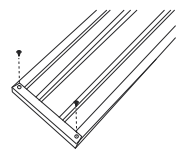

Figure 2
2. For the seats, lay two aluminum planks upside down on a flat surface. Slide the metal end caps onto each end of the planks. The pre-drilled holes of the end cap should be facing up. Use power drill and two self-tapping screws to secure each end cap onto each end of the plank. (See Figure 2)